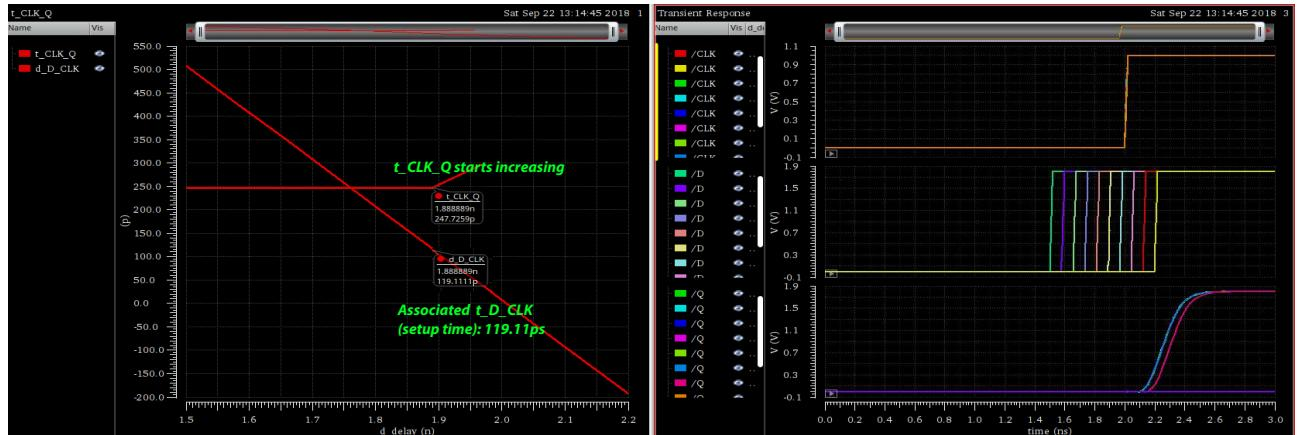

Figure 5: Parametric analysis for setup time measurement.
- (f) You should obtain something like Fig. 5. As you can see, when the delay between  $D$  and  $CLK$  decreases too much (this is the setup time), the delay between  $CLK$  and  $Q$  increases.